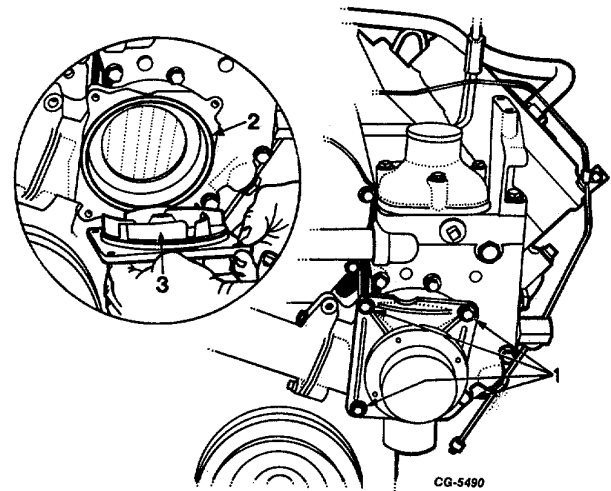

Fig. 25 Removal of Water Pump Assembly
18. The water pump assembly with hub can be removed at this time or on the bench after the complete water pump housing assembly has been removed. (The water pump assembly with hub is serviced as a complete assembly). To remove the water pump assembly with hub, remove four bolts and remove assembly (Figure 25).